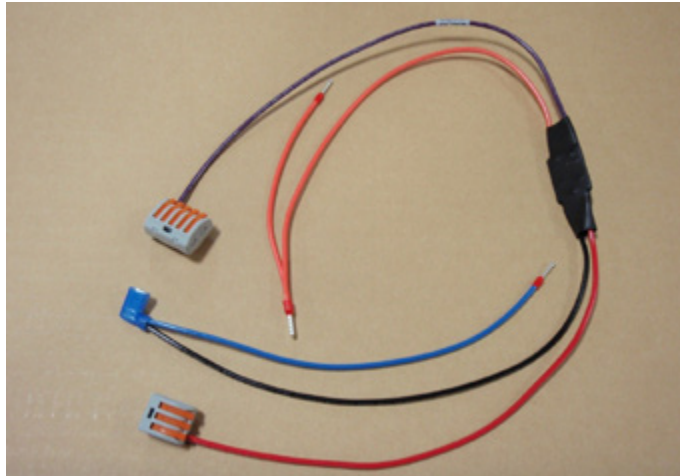

FIGURE 2.3.0 AC-DC HARNESS FOR HE1X
A field replacement kit provides all the parts necessary to replace electronically commutated (EC) motors in an HE1X unit. The kit contains an EC motor/blower package and AC-DC conversion harness, see Figure 2.3.0. Because of differences in the motor control circuitry internal to the replacement motor, additional components in the e-box are required.